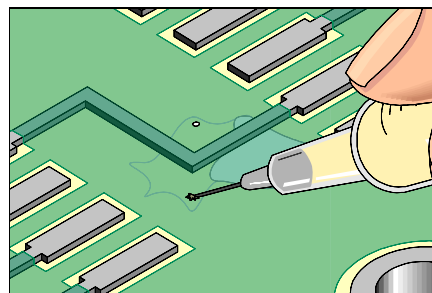

Figure 2: Inject epoxy into the delamination blister.
6. Inject the epoxy into one of the holes in the delamination. (See Figure 2). The heat retained in the PC board will improve the flow characteristics of the epoxy and will draw the epoxy into the void area filling it completely.